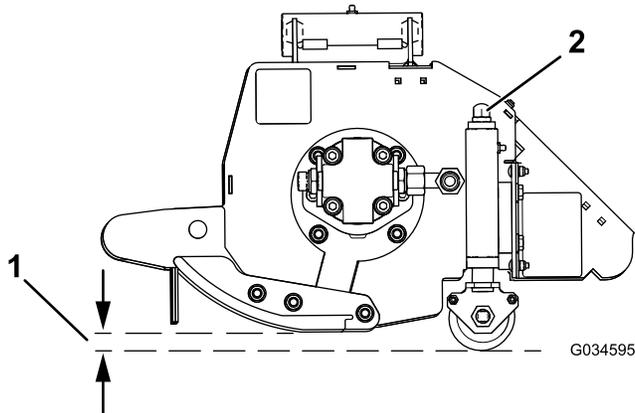

Figure 31
1. Turn the adjusting-nut assembly on both ends clockwise to decrease the height of cut or counter-clockwise to increase the height of cut (Figure 31).